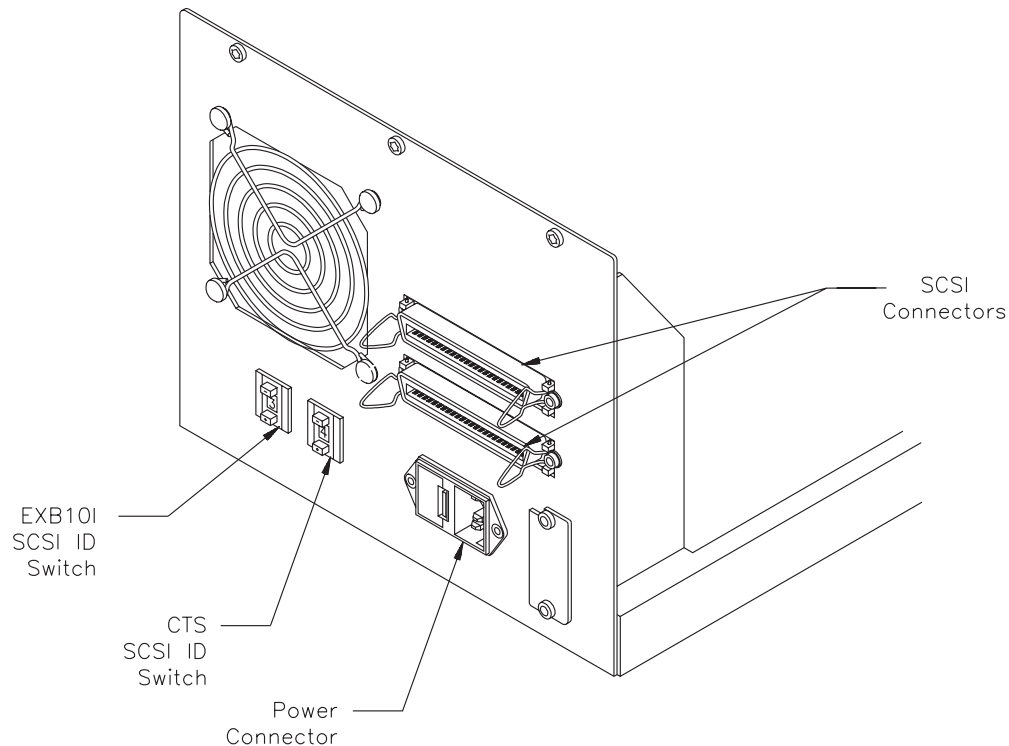

Figure 3-16 SCSI connectors and SCSI ID switches on the EXB-10i
This section describes how to set the SCSI IDs for the CTS and the cartridge handling mechanism (CHM). The EXB-10i contains two remote SCSI ID switches, as shown in Figure 3-16. Use the switch on the left (labeled “MECH”) to set the SCSI ID for the CHM. Use the switch on the right (labeled “DRIVE”) to set the SCSI ID for the enclosed CTS.
After setting the SCSI addresses, you can connect the CTS in the EXB-10i to a SCSI bus. Two SCSI connectors for the CTS are located on the back of the EXB-10i, as shown in Figure 3-16. These connectors enable multiple units to be connected in a series for “daisy chained” configurations or to accommodate one cable and an external terminator if the EXB-10i is the last device on the SCSI bus.
2. Connect the female end of the power cord to the power connector on the back of the EXB-10i. The AC power connector is shown in Figure 3-16. To prevent possible power loss to the EXB-10i, make sure that the power cord is fully connected to the power connector.